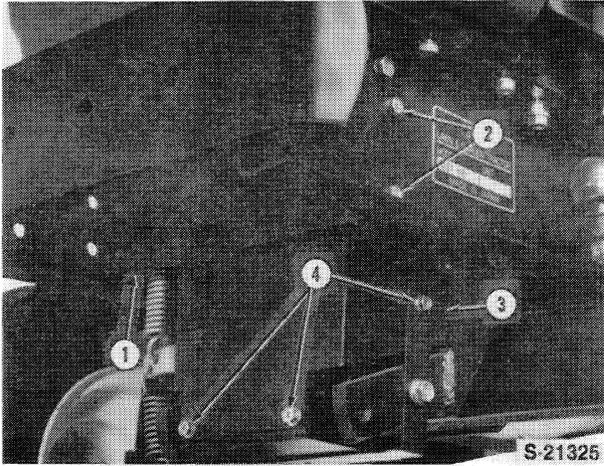

Figure 16
21. Remove the PTO drive belts as follows, Reference Figures 16 and 17.
- Remove the upper and lower shields (1) and (3), Figure 16.